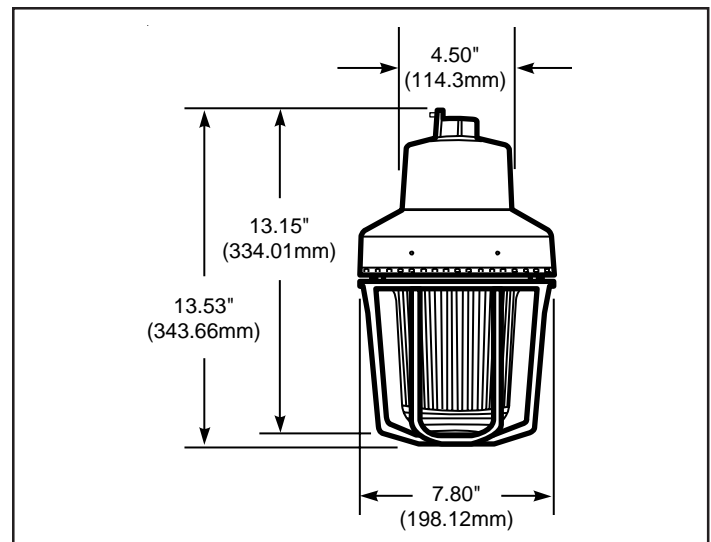

Figure 1. Detail of Pendant Mounting
- a. **Pendant Mount Models** (Figures 1 and 4): Unscrew the globe assembly from the mounting hood and set aside. Install explosion-proof hanger box (not supplied). Secure 3/4" (19 mm) NPT threaded conduit (not supplied) to the box. Install the hood on the conduit. Proceed to step 2.